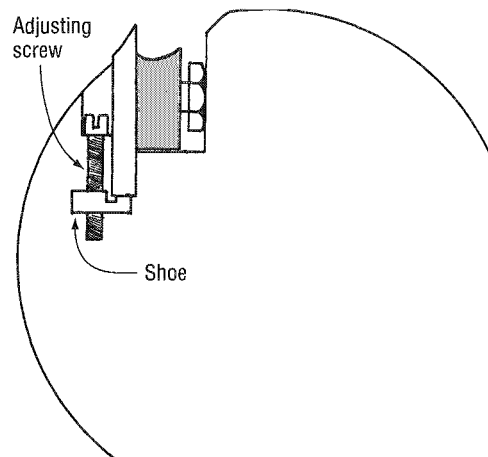

Fig. 3.14 Bar held block with bolts.
- bolts threaded into the bar which will nip the cutter into place as they are wound out from the bar. As the bolt is wound out of the bar it tightens up against the back of the block, thereby gripping the cutters (**Fig. 3.14**).